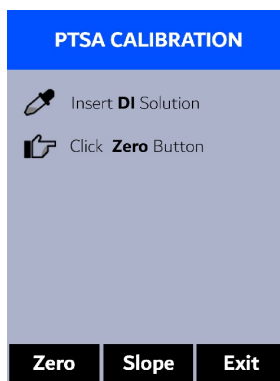

Figure 4.
4. Press **Calib** ( **>** ) to launch the **PTSA CALIBRATION** screen (Figure 4).